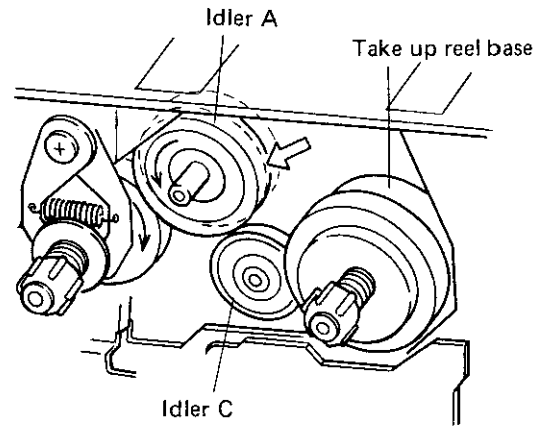

Fig. 13
3. When the REW button is pushed, rotation of idler A is transmitted directly to the supply reel base, and the tape is wound at high speed (Fig. 13).